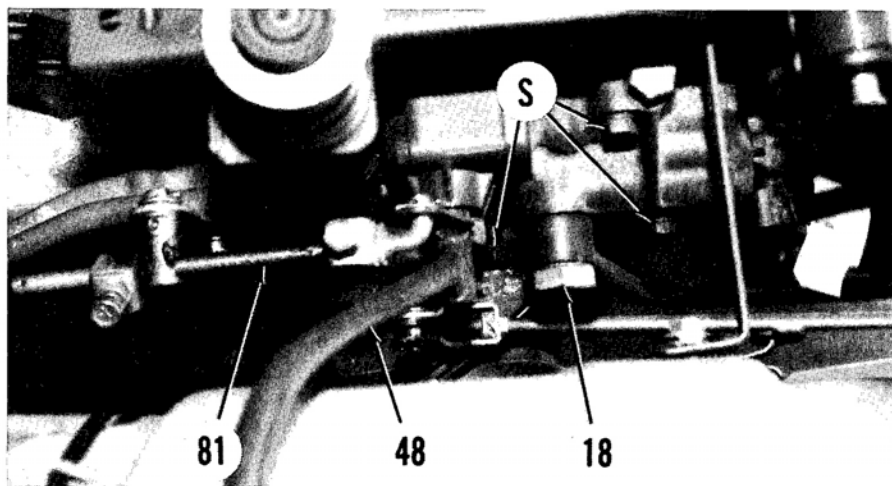

Fig. 100—Top view of control valve and related components.
Drain transmission/hydraulic system fluid into a suitable container. Detach control rod (81—Fig. 100) from lever (48). Remove fitting screw (18) while noting copper washers (17—Fig. 96). If needed, remove control valve hydraulic supply line. Remove any other components that will obstruct control valve assembly removal. Remove the three cap screws (S—Fig. 100) securing control valve assembly to lift cover, then remove control valve. Note the two "O" rings (32—Fig. 101) located between control valve and lift cover.
Installation is reverse order of removal. Renew "O" rings (32) and tighten cap screws (S—Fig. 100) to